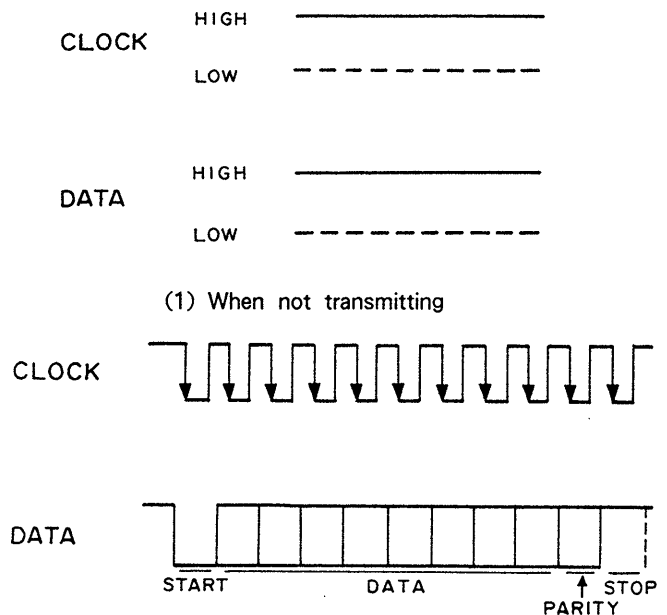

Fig. 3-7-2. Keyboard Output Data Timing
The keyboard and the (computer) system communicate with one another through CLOCK (KBCLK) line and DATA (KBDATA) line. While no communication is being performed, both the two lines are at the high level. Also refer to Fig. 3-7-2 (1). Open collectors are used for both the keyboard and the system, so that the two lines can be made to low level from either side. During communication, the keyboard sends a synchronization clock of approx. 16.6kHz. Also refer to Fig. 3-7-2 (2). Transmitting data format is as follows, also refer to Fig. 3-7-2 (2).
See Fig. 3-7-2. Before sending any data, the keyboard first checks the status of CLOCK line and DATA line. When both are found high level, it assumes ready to send and starts sending data to the computer system. Even during the transmission of data, the keyboard checks the CLOCK line at least every 60 μsec. If the system forcibly sets it to low level, the keyboard assumes that data transmission is inhibited and immediately stops transmission.